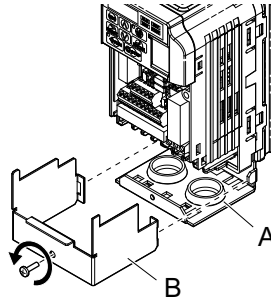

Figure 3.10 Remove the Terminal Cover on an IP20/NEMA Type 1 Drive
2. Loosen the screw on the terminal cover (**Figure 3.10, B**) to remove the terminal cover and expose the conduit bracket (**Figure 3.10, A**).